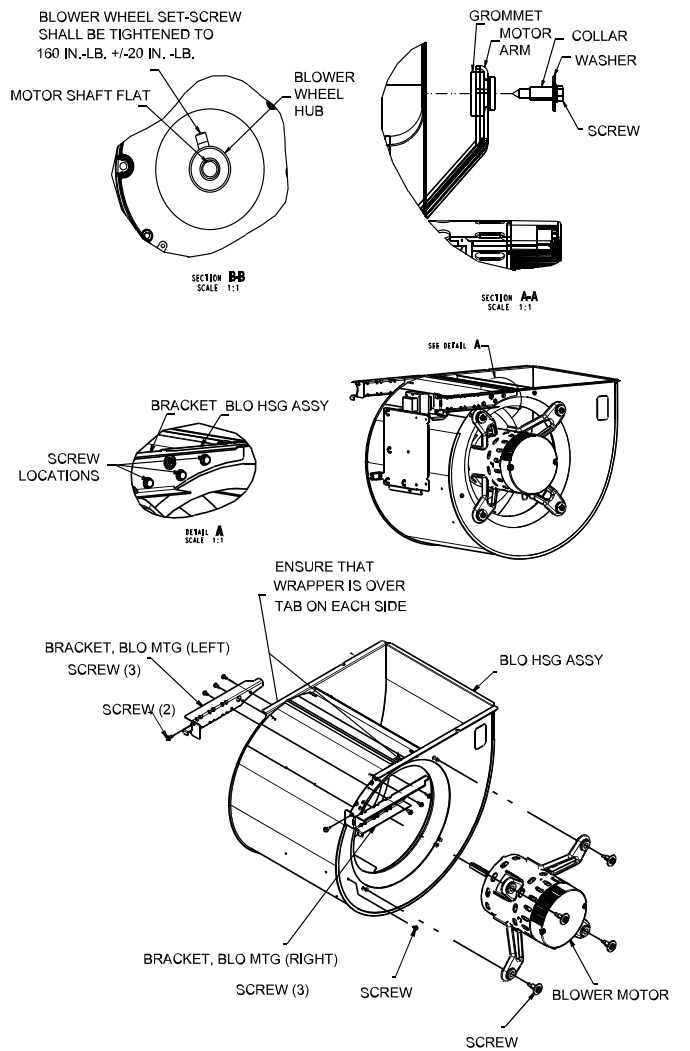

Fig. 67 – Blower Assembly on 66100V21
**NOTE:** On 66100V21 size, the top screw securing blower to shelf must be removed in order to remove the blower. (See Fig. 67)
8. Reassemble motor and blower wheel by reversing items 7b through 7f. Ensure wheel is positioned for proper rotation.
**NOTE:** On 66100V21, ensure that the blower wrapper sits on top of the two tabs on blower sidewalls. (See Fig. 67)